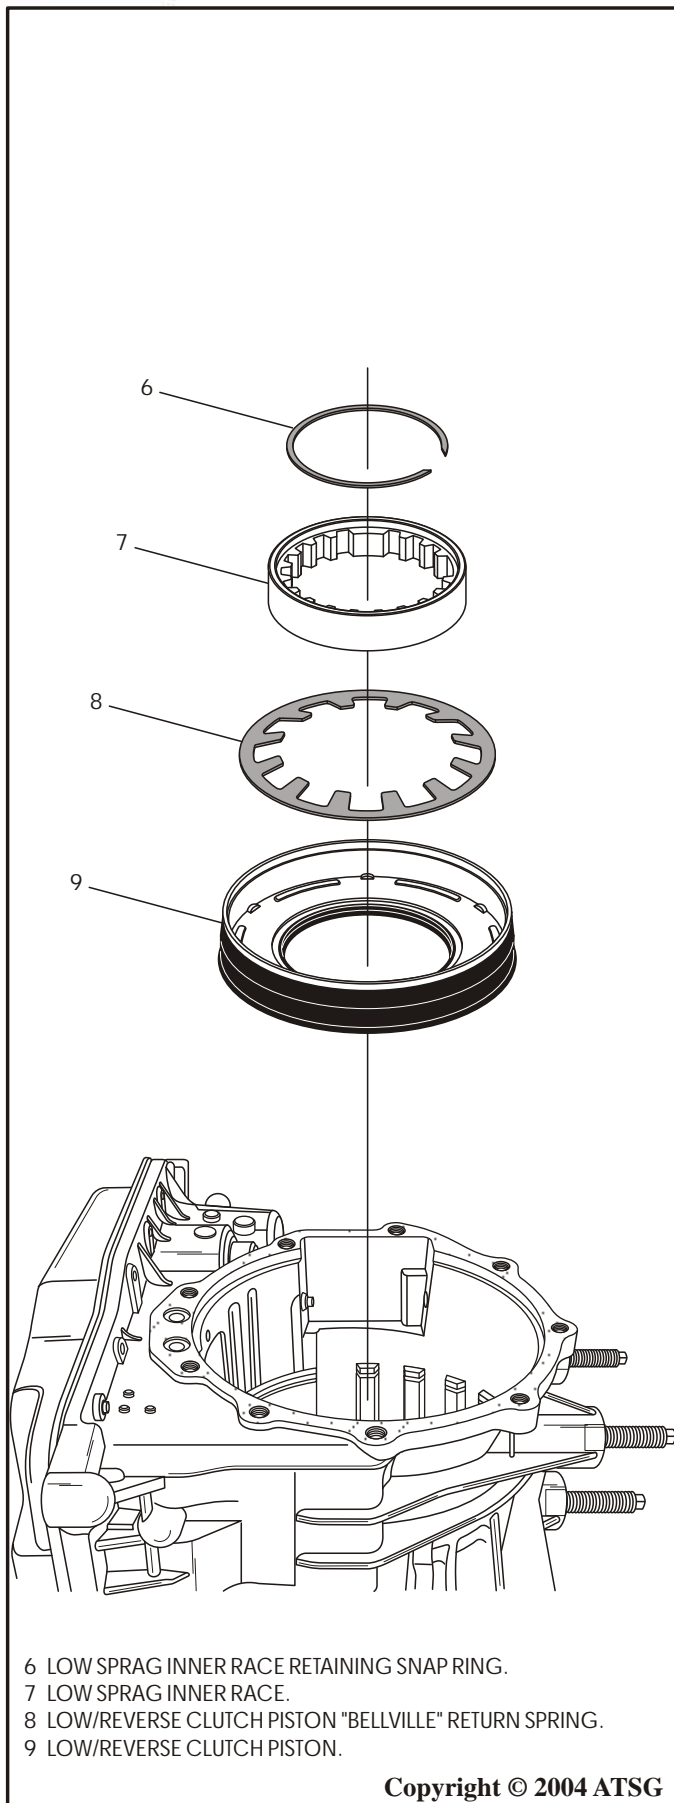

Figure 165
26. Rotate transaxle in fixture so that end cover surface is facing up, as shown in Figure 165.
27. Lubricate and install the low/reverse clutch molded piston, as shown in Figure 165.
28. Install the "Bellville" low/reverse clutch piston return spring, as shown in Figure 165.
29. Install the low sprag inner race, as shown in Figure 165.
30. Install the low sprag race retaining snap ring, as shown in Figure 165, and ensure that it is fully seated in the groove.